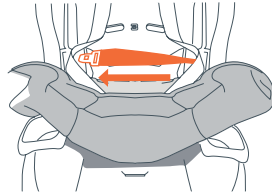

Fig. 31a
4. Route seat belt through forward facing belt path (Fig. 31a).